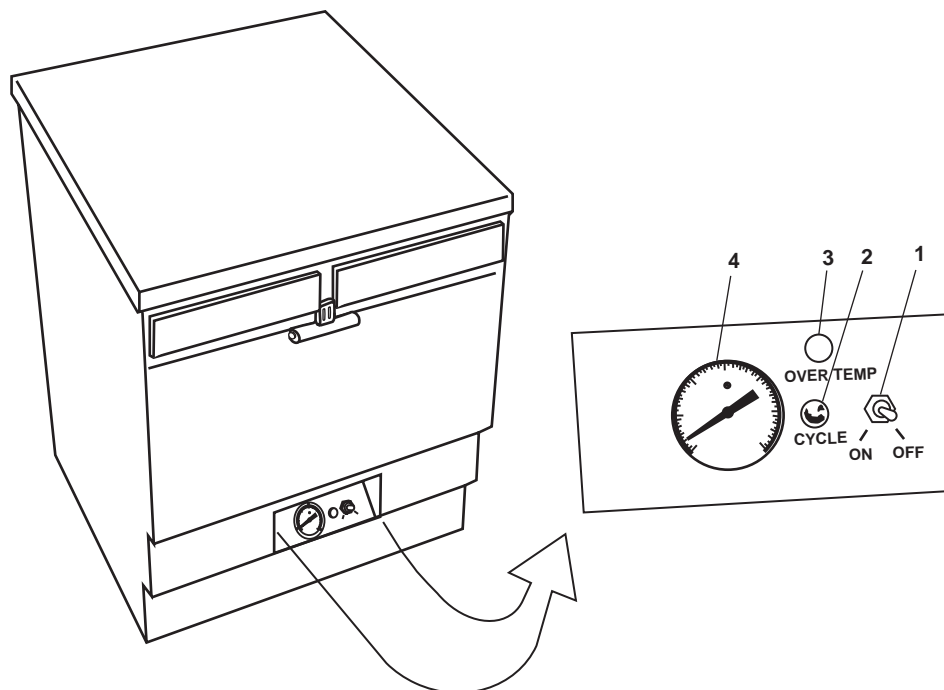

Figure 18. Dishwasher
- c. Set the selector switch (figure 18, item 1) to ON.
- f. Ensure that the cycle indicator (figure 18, item 2) is OFF.
- h. Observe the water temperature gauge (figure 18, item 4) during the rinse cycle. The temperature should be 180 °F (82 °C) as a minimum.
When the cycle indicator (figure 18, item 2) goes OFF, the cycle is complete.
- a. Set the selector switch (figure 18, item 1) to the OFF position.